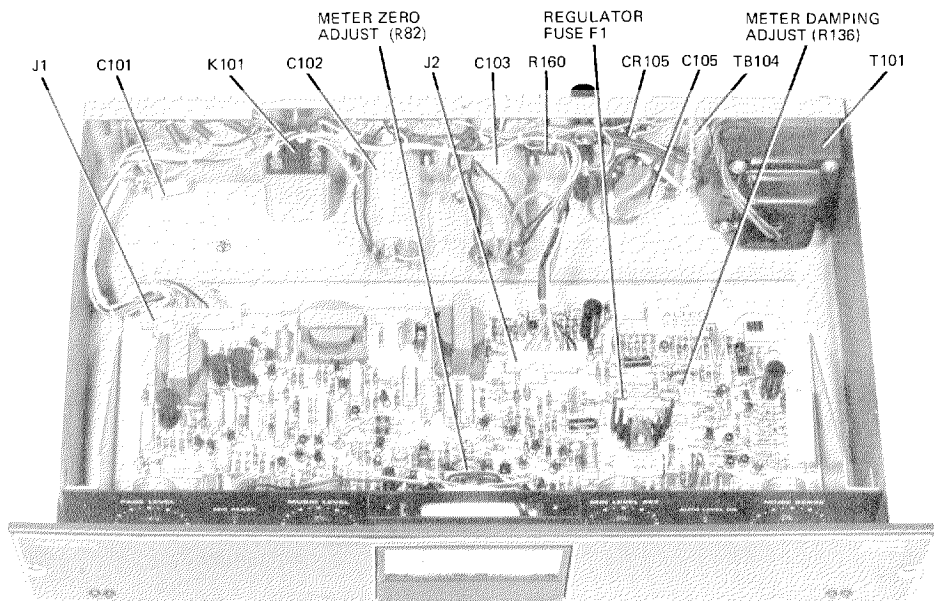

Figure 4. Chassis Components
The Meter Zero Adjust (R82) is located within the chassis on the printed circuit board (see Figure 4). For proper adjustment, proceed as follows:
The Meter Damping Adjust (R136) is located within the chassis on the printed circuit board (see Figure 4). Nominal adjustment of R136 is one-fourth of the clockwise excursion, as referenced from the front of the NOALA.
Fuse F1 is located within the chassis, on the printed circuit board. This fuse, rated at 1.5 amperes, protects regulator U2 (see Figure 4).
2. Locate terminal board TB104 near power transformer T101 (see Figure 4).